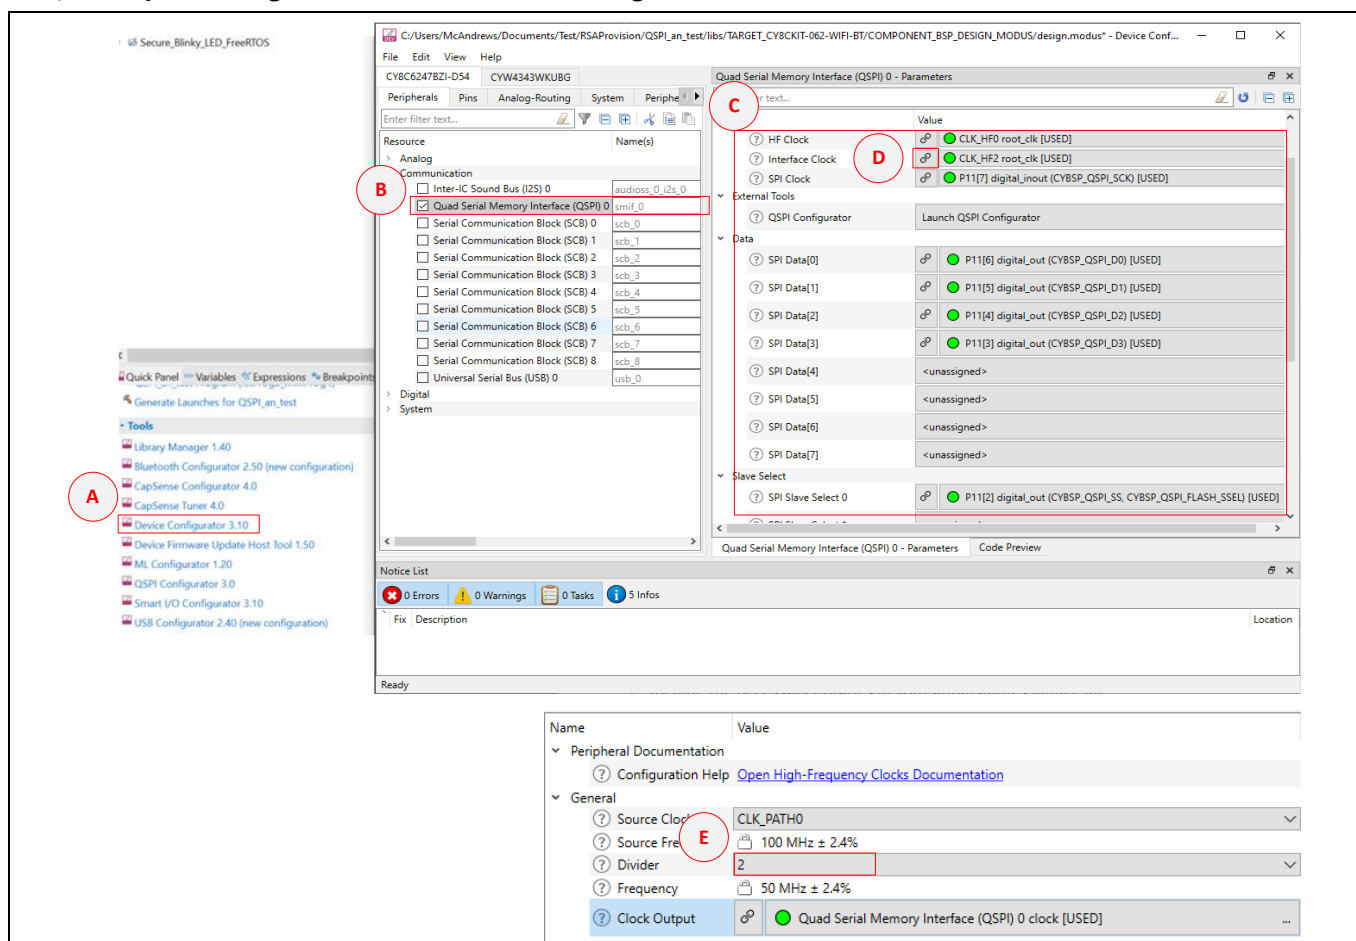

Figure 2 Steps to configure the QSPI block
1. Enable the QSPI hardware with using the device configurator. **Figure 2** shows an example configuration suitable for use with any PSoC™ 6 MCU kit that has an external flash device.
- c) Configure the **QSPI** block as shown in **Figure 2**